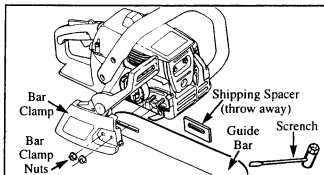

Figure 9
- Remove the following parts as shown in Figure 9, using the scrench provided with the unit.